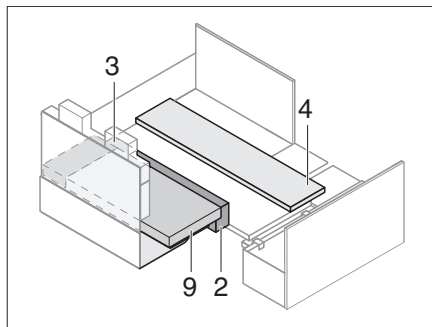

Fig. 222 Positioning additional cushion
- Position the additional cushion (Fig. 222). The distance results from the insertable cushion.
- Insert the seat cushion and seat extensions. Place the back cushions (Fig. 222,9) on the additional cushion.